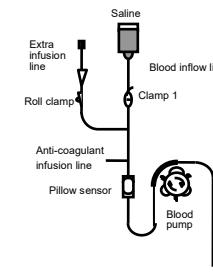

Fig.1
3) Insert the pump tube into the pump and the pillow sensor into the pillow sensor unit (Fig.1).